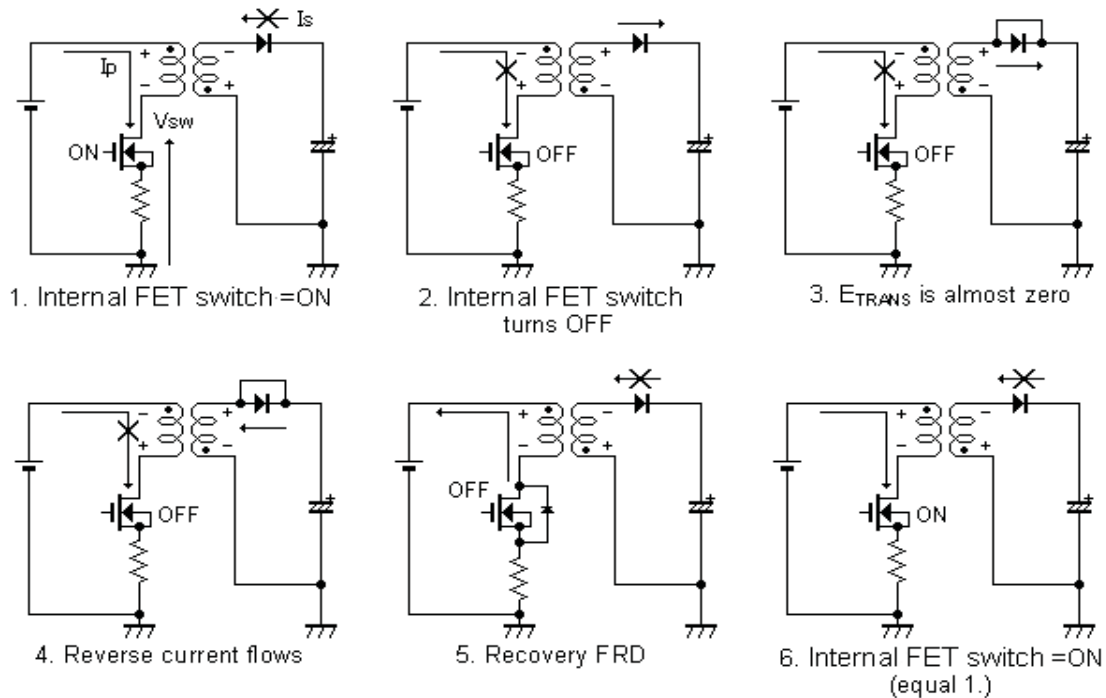
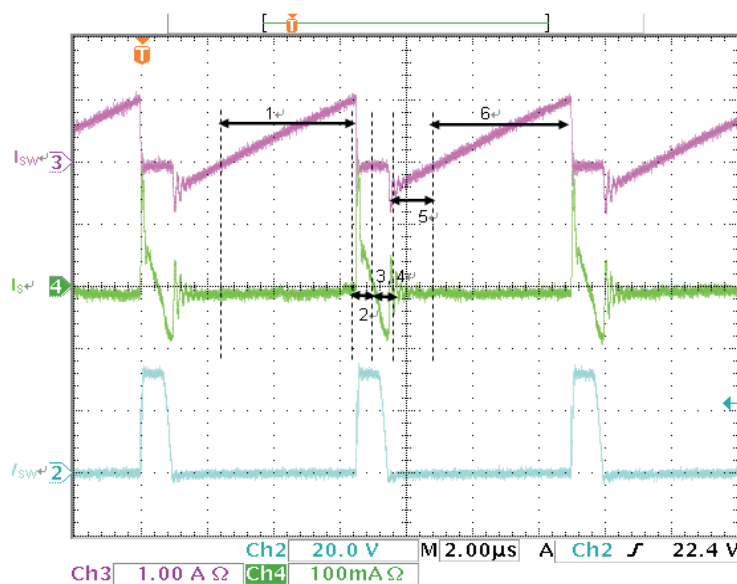

Figure 11. Mechanism of Reverse Current
Figure 12. Diagram of Reverse Current
The most important factor in selecting FRD is the reverse recovery time (T_{rr}). It affects both charging time and efficiency because it causes the reverse current at primary side. When FRD is recovery mode, the current in the secondary side should be flowing from the capacitor to the transformer. The mechanism of reverse current is described in the following steps (see Figure 11 and Figure 12).
1. Internal FET switch is on (status 1 and 6 at Figure 11)
2. Internal FET switch turns off (status 2 at Figure 11)
3. E_{TRANS} is almost zero and reverse current flows (status 3 and 4 at Figure 11)
4. Recovery FRD (status 5 at Figure 11)